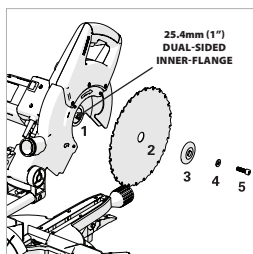

Fig. 40d
- Install the new blade (**Fig. 40d**). Make sure the rotation arrow on the blade matches the clockwise rotation arrow on the upper guard.